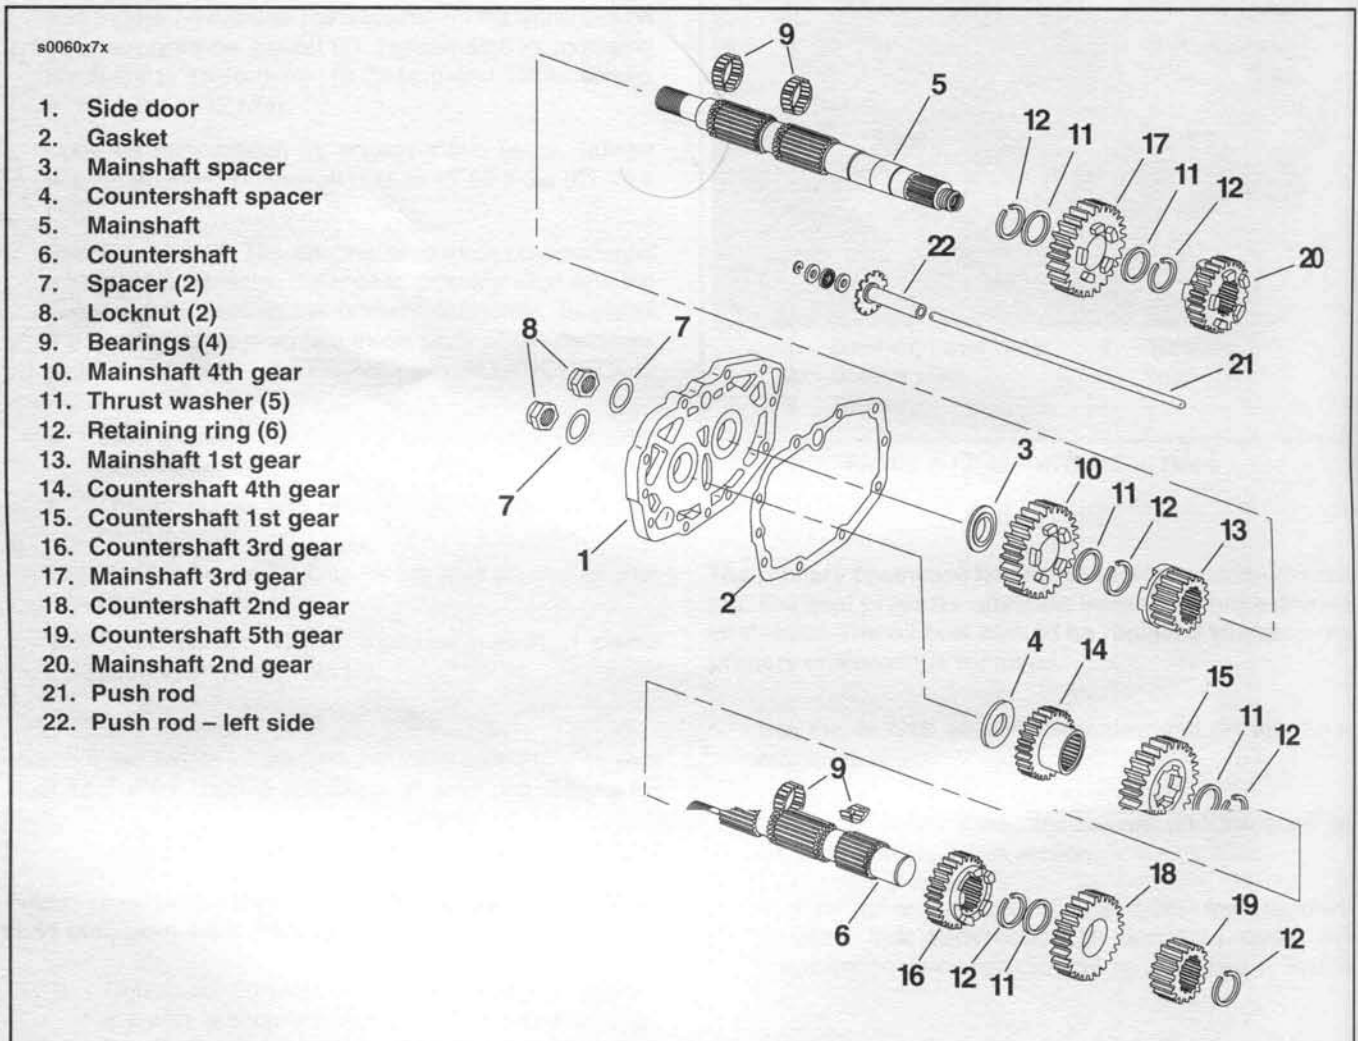

Figure 7-18. Mainshaft, Countershaft Assembly
8. See Figure 7-18. Remove the locknuts (8) and spacers (7) from the shafts.
2. See Figure 7-18. Install the assembly in the transmission case using a **new** gasket (2). Tighten 5/16 in. mounting hardware to 13-16 ft-lbs (18-22 Nm) and 1/4 in. screws to 7-9 ft-lbs (9-12 Nm).
5. See Figure 7-18. Install 2-piece push rod (21 and 22) in mainshaft hole.
1. See Figure 7-18. Remove the 2-piece push rod (21 and 22) from the hole in the mainshaft. Use RETAINING RING PLIERS, Part No. J-5586, to remove all retaining rings (12).
2. With access door on end (shafts pointing upward), remove the retaining ring (12) from the countershaft (6). Remove the countershaft 5th gear (19) and countershaft 2nd gear (18).
3. Remove the bearings (9), retaining ring (12) and countershaft 3rd gear (16).
4. Remove mainshaft 2nd gear (20) and leave 4th and 1st gear respectively on each shaft.
1. See Figures 7-18 and 7-20. Slip thrust washers (11) and retaining rings (12) on mainshaft and countershaft. Slip mainshaft 4th gear on mainshaft and countershaft 1st gear on countershaft.
2. Lightly coat bearings (9) with oil and install the bearings on the mainshaft (5) bottom race. Slide mainshaft 4th gear (10) over the bearings. Install one thrust washer
(11) on top of the gear and secure with a retaining ring (12). Install mainshaft 1st gear (13) with the shifter fork slot facing the side door.
6. See Figures 7-18 and 7-21. Place side door (1) in an arbor press. Support inner bearing races with a suitable socket. Press the shafts into the bearings. With the shafts properly pressed into the side door, spacers (3 and 4) will have no end play. The mainshaft (5) is installed to the left of the transmission top cover access cover hole when viewing the side door from the top.
7. Install one spacer (7) and nut (8) on each shaft and tighten the nuts finger tight. Do not tighten at this time. See REMOVAL/INSTALLATION.
8. Install a retaining ring (12) in the mainshaft groove just above 1st gear. Insert a thrust washer (11) on top of the retaining ring and place the bearings into the mainshaft race.
9. Place mainshaft 3rd gear (17) over bearings and secure 3rd gear with a thrust washer (11) and retaining ring (12).
10. See Figures 7-18 and 7-22. Install the mainshaft 2nd gear (20) on the shaft with the shifter fork slot towards the side door.
11. See Figures 7-18 and 7-23. Install countershaft 3rd gear (16) with shifter fork slot facing away from the side door.
12. Install a retaining ring (12) in the countershaft groove above 3rd gear (16). Slide a thrust washer (11) on top of the ring and place the bearings in the countershaft race.
13. See Figures 7-18 and 7-24. Install the countershaft 2nd gear (18) over the bearings.
14. Install the countershaft 5th gear (19) on the countershaft. Secure 5th gear with a retaining ring.